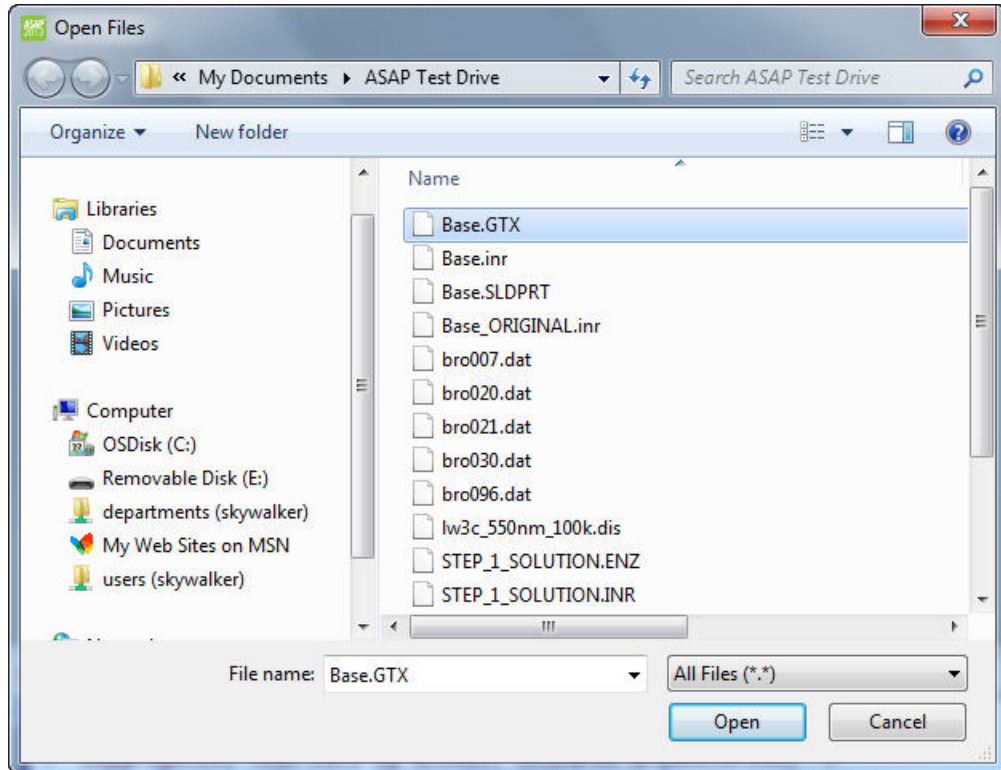

Figure 10 Opening the SolidWorks file, Base.GTX, in ASAP
- 6 Click **Open** and click Base.GTX. See Figure 10.